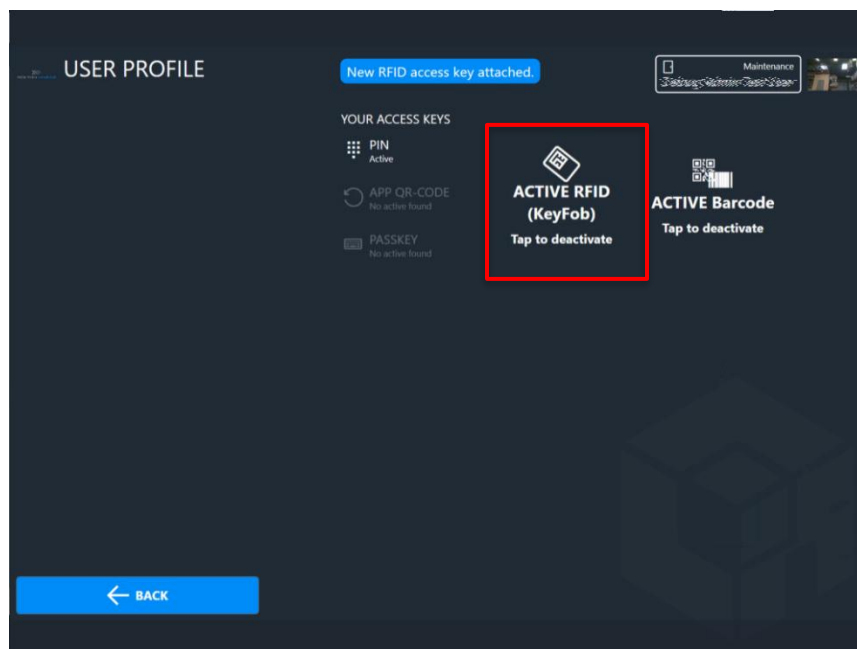

Figure 7: Activate an RFID (KeyFob)
The User Profile screen displays. See Figure 7.
3. Tap **Active RFID (KeyFob) Tap to deactivate**. See Figure 7.